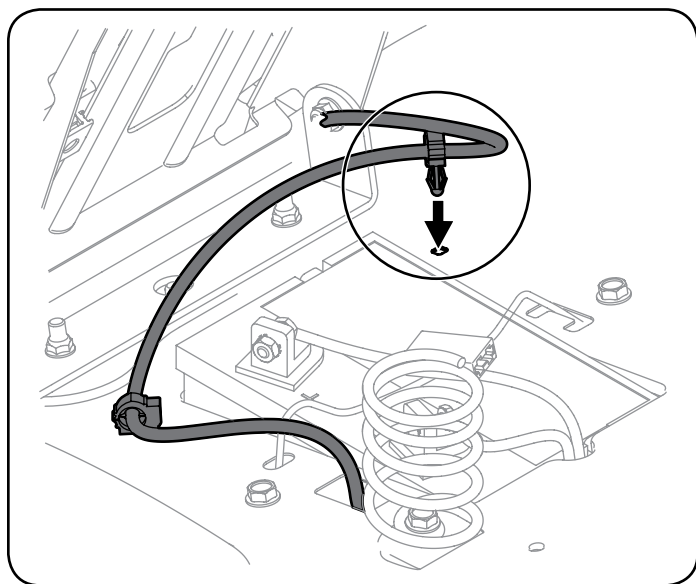

Figure 4
4. Using the harness clip attached to the harness, secure the excess wire to the fender by snapping the harness clip in place as shown in "Figure 4".